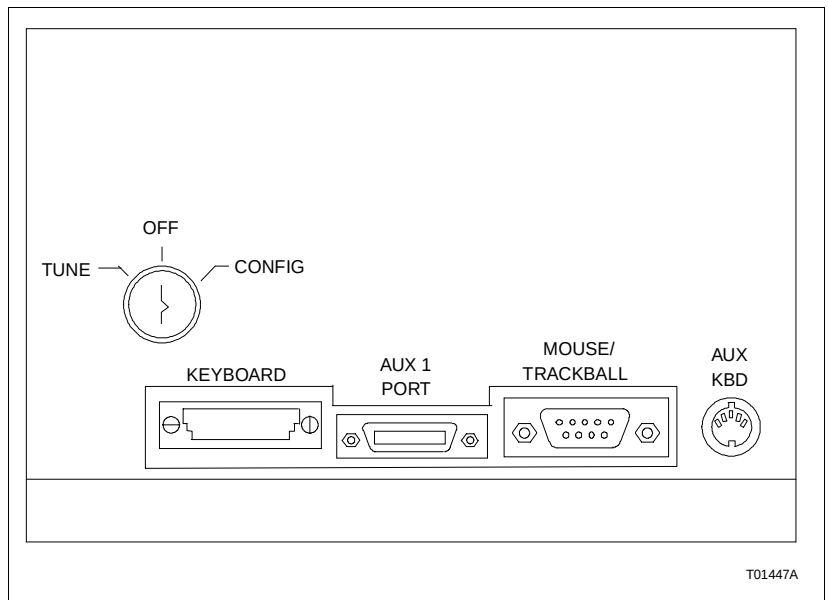

Figure PR32-1. Keyboard Interface Assembly
1. Unplug the Mylar (operator) keyboard from the port marked KEYBOARD on the keyboard interface assembly (Fig. PR32-1).